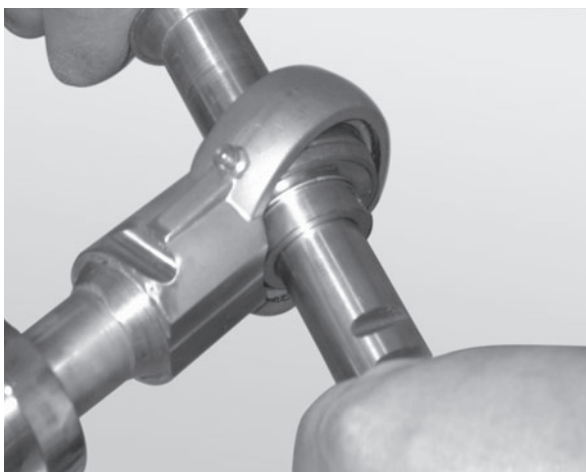

Figure 78
2. Insert the rod end of a second bearing shaft through the bearing (**Figure 78**).